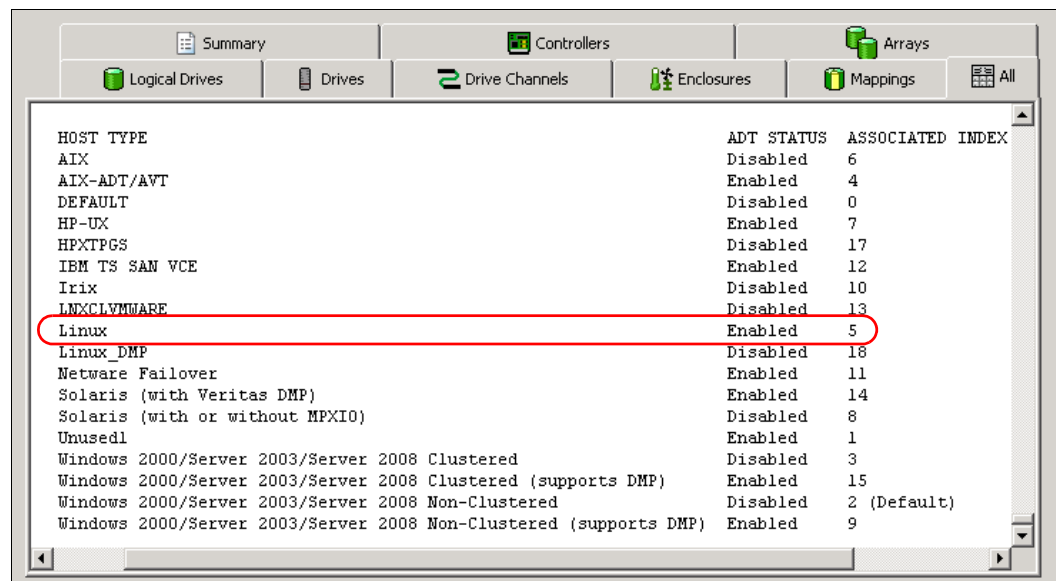

Figure B-3 General definition of an AVT that is different for different host types
- Scroll down to the Host Type Definitions section of the profile. The ADT STATUS column shows if AVT is enabled or disabled (Figure B-3).